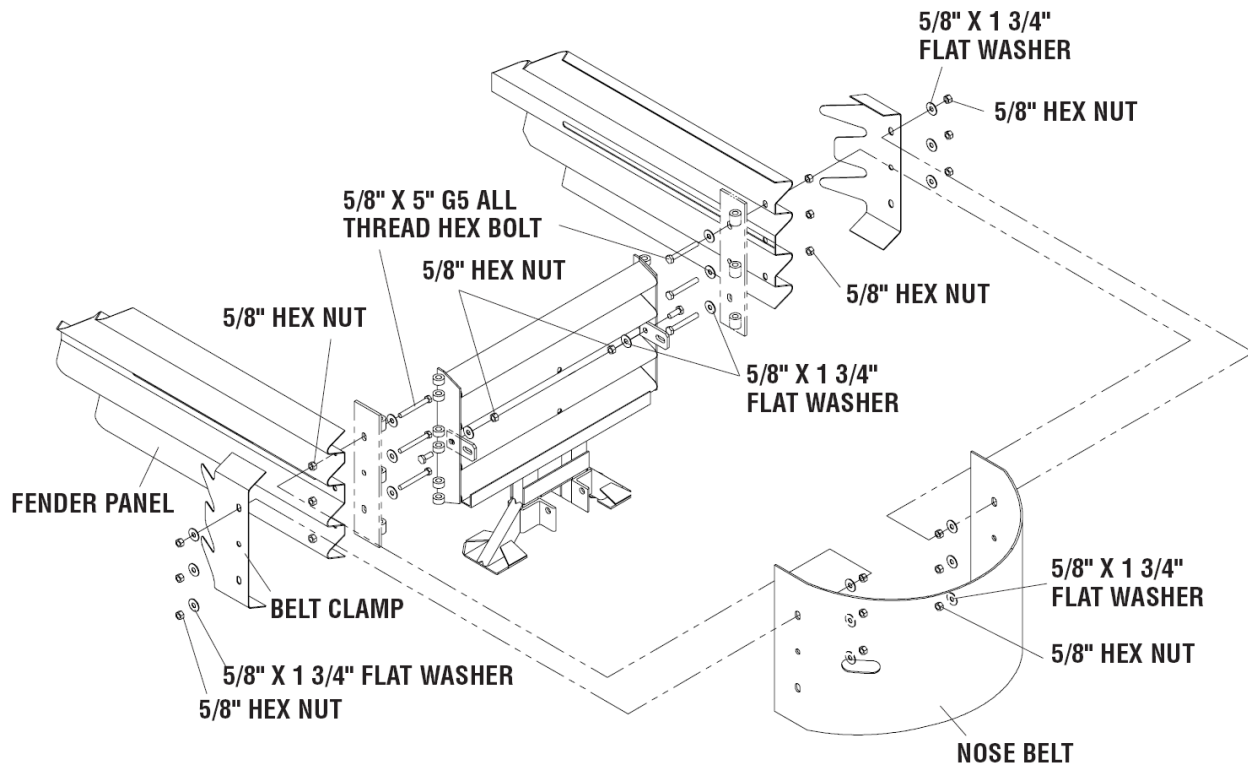

Figure 45
Attach the Nose Belt to the Fender Panels using six (6) 5/8" x 5" long hex bolts, twenty (20) 5/8" flat washers, and eighteen (18) 5/8" hex nuts through the Belt Clamps as shown in Figures 45 - 46 and the Nose Assembly drawing.